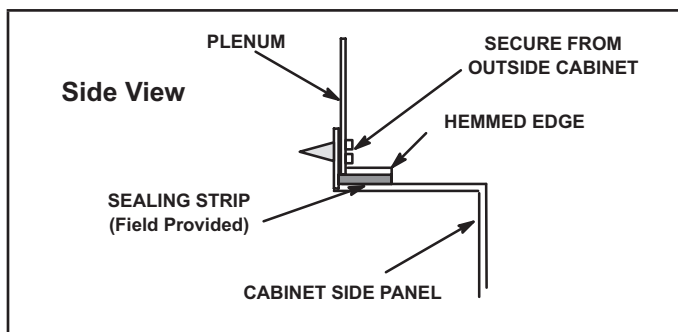

Figure 9
- 1 - Bottom edge of plenum should be flanged with a hemmed edge (See figure 9)